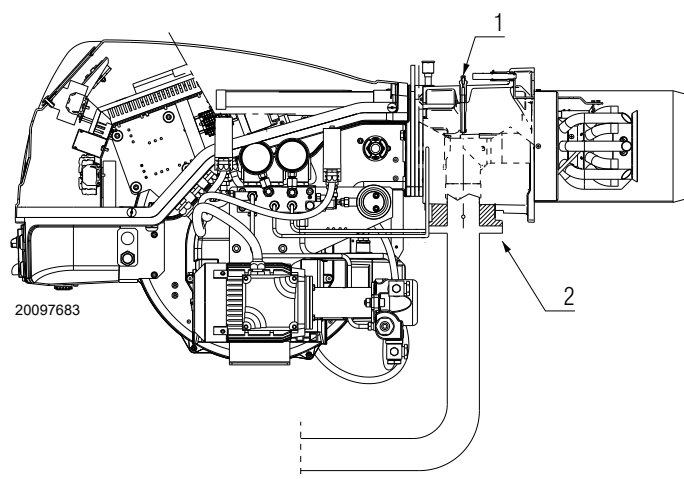

Fig. 28
Gas manifold pressure measured at test point 1)(Fig. 28), with:
- subtract the combustion chamber pressure from the gas pressure measured at test point 1)(Fig. 28).
- Gas pressure at test point 1)(Fig. 28) = 4.41" WC